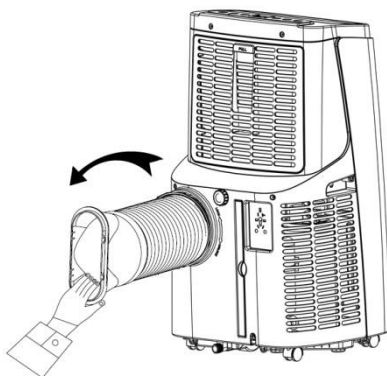

Fig. 2
1.1 Install the heat pipe assembly (as shown in Fig.2)
2) insert the heat pipe assembly (the end of the exhaust joint) into the back panel vent slot (push to the left) and complete the assembly (as shown in Fig. 2).